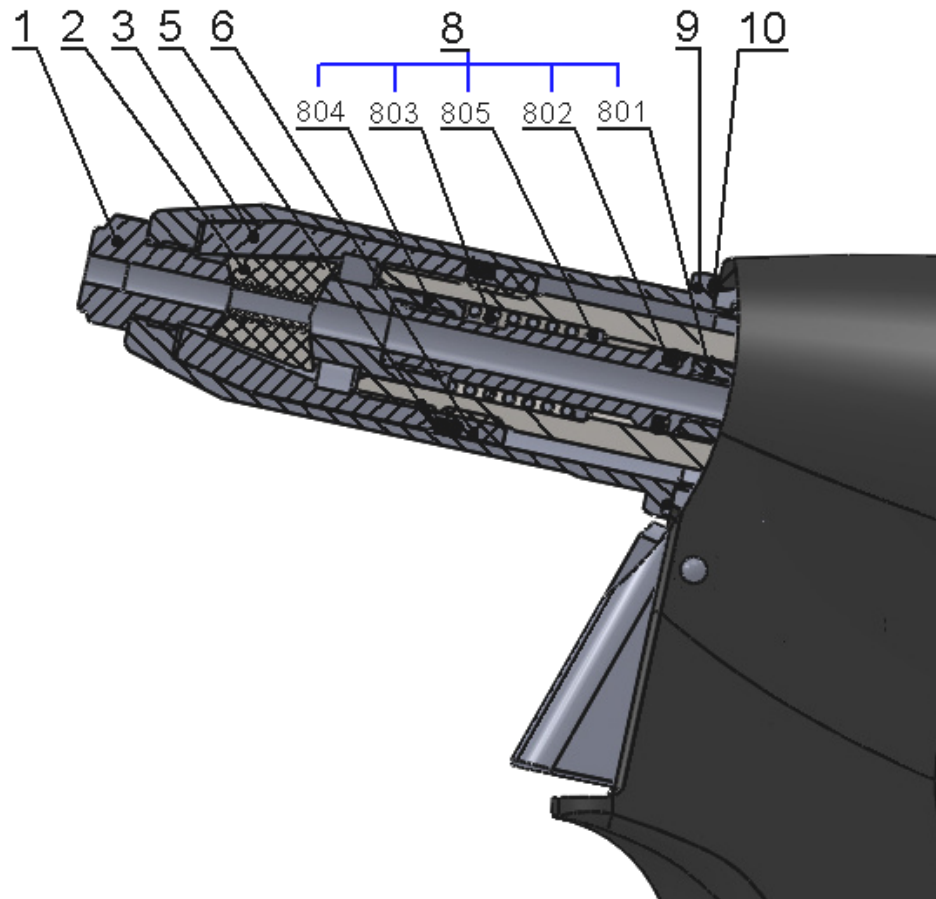
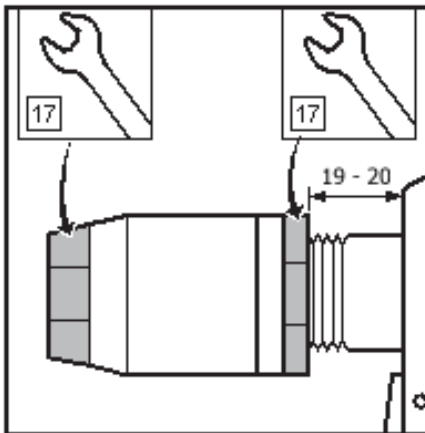

Fig.2
Fig.3
Disconnect the tool from the source of compressed air, unscrew the front nozzle /fig.2 - pos.9/ by means of a spanner no. 23, set the spanner no.17(15) onto the clamping sleeve /fig.2 - pos.3/, set the spanner no. 17 on the backnut /fig.2 - pos.6/ and loosen. Unscrew the clamping sleeve, replace the jaws /fig.2 - pos.2/ and conduit-suction complet /fig.2 - pos.8/. All used threads are clockwise. Clean the dismantled parts thoroughly and check them visually, especially the following:
- 1) Jaws /fig.2 – pos.2/ - if worn or damaged, replace it, if dirty, clean it with a wire brush.
- 2) Nose-piece /fig.2 – pos.1/ - for wear of functional surfaces of the taper.
- 3) Conduit-suction complet /fig.2 - pos.8/ - inspect parts of the assembly, jaw pusher /fig.2 - pos.804/, spring /fig.2 - pos.803/, washer of spring /fig.2 - pos.803/, O - ring /fig.2 - pos.802/ and conduit-suction /fig.2 - pos.801/ - if damaged or worn, replace it with a new one.
- 4) Front nozzle /fig.2 - pos.9/ - check for damage of the internal surface ( $\varnothing 20$ ) .
- 5) Scraper ring /fig.2 - pos.5/ - if damaged or worn, replace it with a new one.
Mount the parts (see par. disassembly) in a reverse order. On the outer surface of the jaws /fig.2 – pos.2/ apply a drop of lubricating oil ( we recommend hydraulic oil HYPIN AWHM 32 CASTROL), apply thin layer of plastic lubricant MOGUL LV 2-3 to the conduit-suction complet /fig.2 – pos.8/. Basic set-up of the jaws is performed as in fig.3.